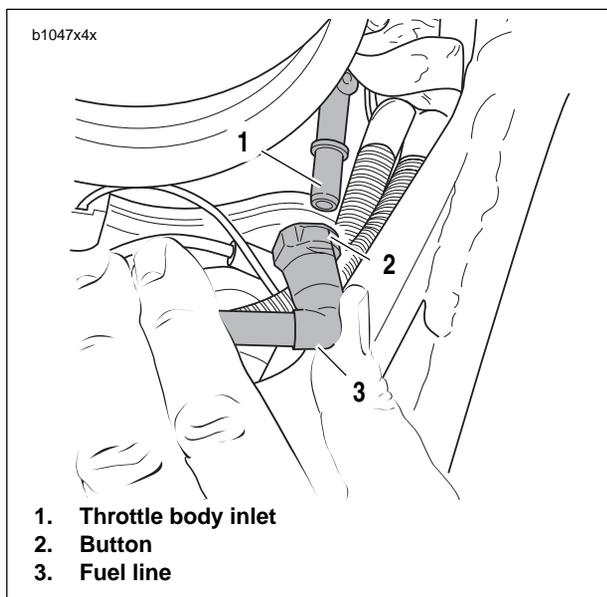

Figure 4-24. Fuel Line
3. See Figure 4-24. Depress button (2) of fuel line connector and disconnect the fuel line (3) from throttle body inlet (1).